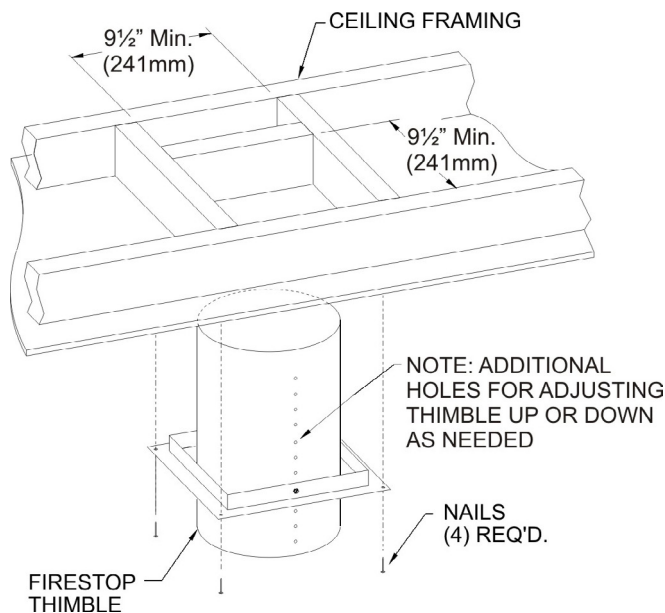

Figure 22
4. Once the fireplace location has been determined, mark the ceiling where the flex vent will pass through. Cut an opening for installation of the firestop thimble assembly. The opening must measure a minimum of 9-1/2" x 9-1/2" square. **See Figure 22.**